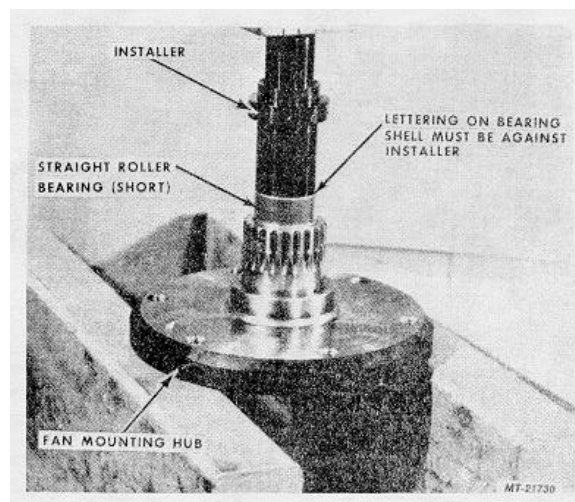

Fig. 38
1. Using Installer SE-2782-1, press Straight Roller Bearing (short) down with the long end of Installer SE-2782-1 until the tool shoulder bottoms against the end of Fan Mounting Hub, Fig. 38.